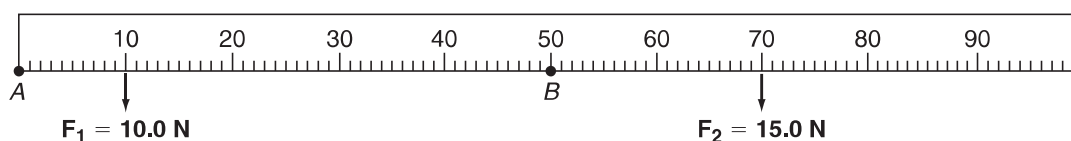

Figure 10-4 Meter stick with two forces F_1 and F_2 acting at points shown.
3. For the meter stick shown in Figure 10-4, the force F_1 10.0 N acts at 10.0 cm. What is the magnitude of the torque due to F_1 about an axis through point A perpendicular to the page? Is it clockwise, or is it counterclockwise? Show your work and give correct units.
4. In Figure 10-4 the force $F_2 = 15.0\text{ N}$ acts at the point 70.0 cm . What is the magnitude of the torque due to F_2 about an axis through point B and perpendicular to the page? Is the torque clockwise, or is it counterclockwise? Show your work and give correct units.
5. For the meter stick in Figure 10-4, what is the magnitude of the *net* torque due to both forces F_1 and F_2 about an axis perpendicular to the page through point A? Is it clockwise or counterclockwise? Show your work.